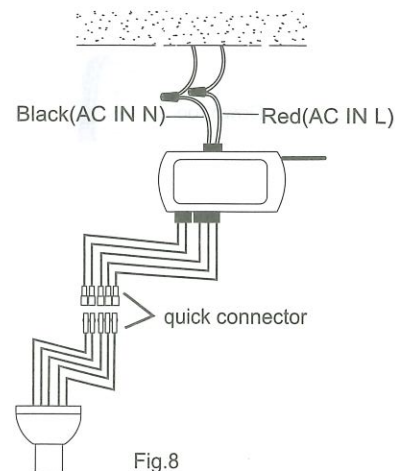

Fig.8
11. Connect wires: As shown in the below (Fig.8)